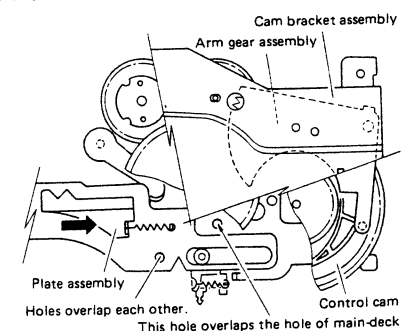

Fig. 2-11 Cam bracket assembly
1. Push and hold the plate assembly so that the hole of the plate assembly overlaps the hole of the main-deck, as shown in Fig. 2-11.